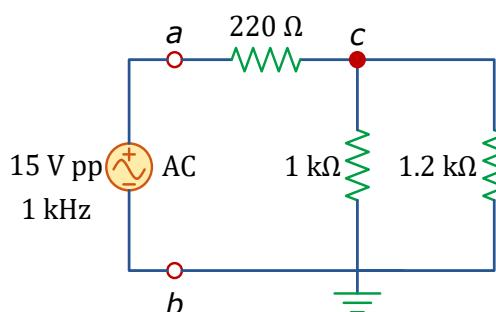

Figure 1.5: Resistive circuit for Lab 1 with AC voltage source.
- B.5** Using the AC power supply, connect a sinusoidal **1 kHz** and **15 V peak-to-peak** signal to the circuit as shown in Figure 1.5. Measure the peak-to-peak value of voltages  $V_{ab}$  and  $V_{cb}$  using the **oscilloscope** and write your values in the Table below.
- B.6** In the same circuit shown in Figure 1.5, use the oscilloscope to measure the peak-to-peak voltage across the  $220\text{-}\Omega$  resistor,  $V_{ac}$ .